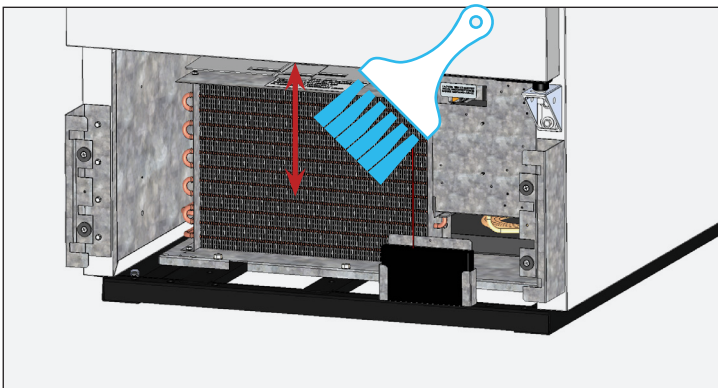

Fig. 5. Never brush across coil fins.
3. With a stiff bristle brush, carefully clean accumulated dirt from the front condenser coil fins. See fig. 5.